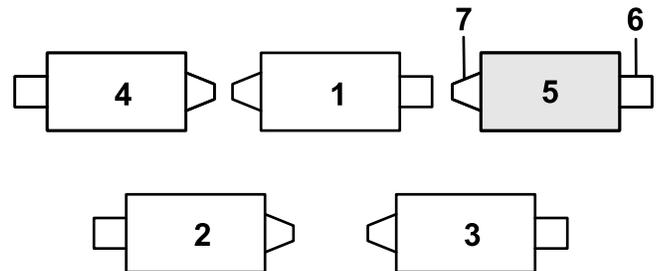

Figure 12
1. If the hairpin is installed in the rear hole of the compensation-spring rod—remove the hairpin and insert it in the hole next to the bracket (Figure 12).